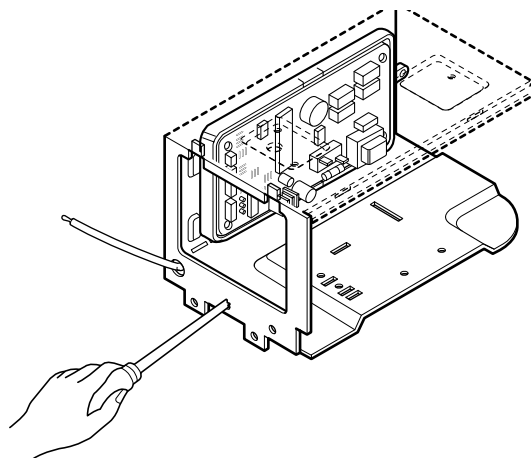

Figure 30
5. Re-install the components by referring to the removal procedure above. (See Figure 30)